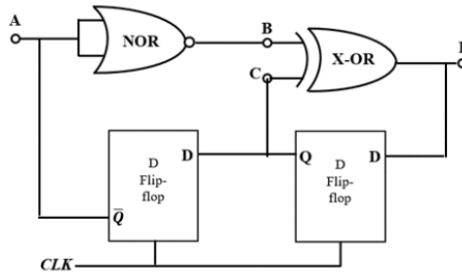

Fig. 5.9
9. Find the decimal equivalent of  $ABCD$  in Fig. 5.9.